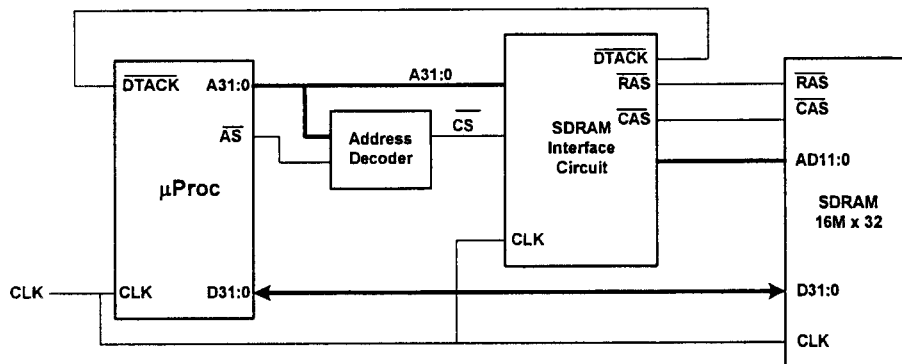
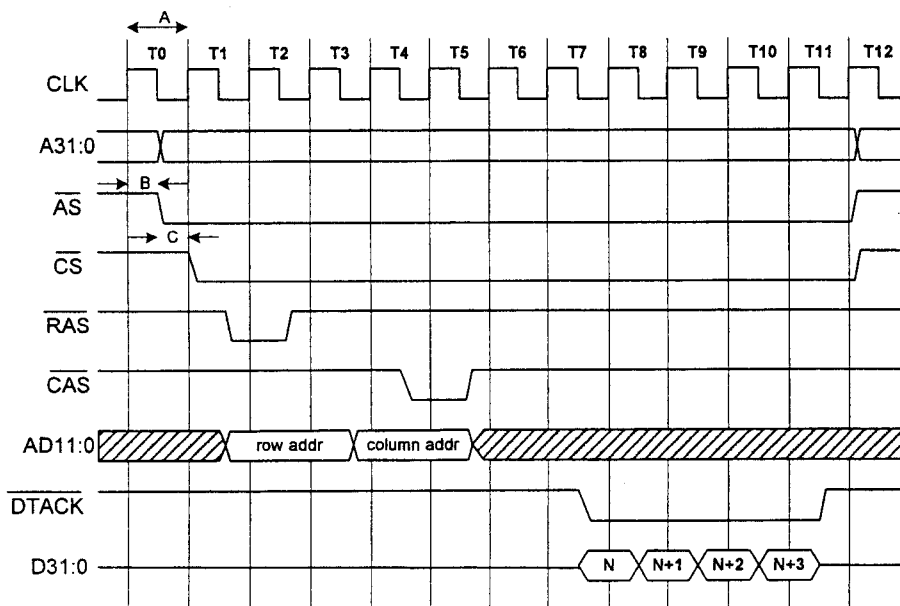

Figure 6.1
Figure 6.2
6. *Figure 6.1* shows a microprocessor connected to a 16M x 32 bit SDRAM module through an address decoder and an interface circuit. The timing of the microprocessor and the SDRAM for reading a burst of four memory words is shown in *Figure 6.2*. The address bus  $A_{31:0}$  becomes valid and the address strobe signal  $\overline{AS}$  is asserted at time B after the rising edge of the clock signal  $CLK$  during the clock cycle  $T_0$ . The period of the clock is A. At time C after  $\overline{AS}$  is asserted, the address decoder circuit produces a chip select signal  $\overline{CS}$ , which is asserted low for addresses in the range \$00000000 to \$00FFFFFF provided that  $\overline{AS}$  is also low. The row address strobe signal  $\overline{RAS}$  and the column address strobe signal  $\overline{CAS}$  are asserted by the SDRAM interface circuit for one clock cycle on the falling edge of the clock during  $T_1$  and  $T_4$  respectively.